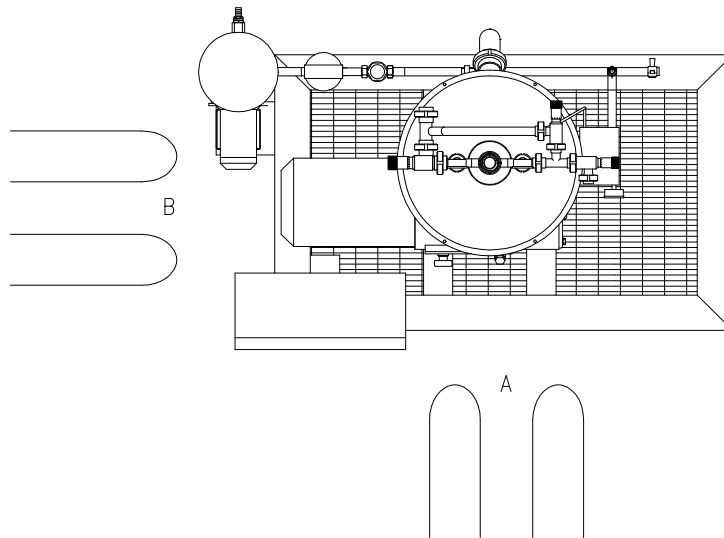

Figure 4.3
**To lift the preassembled unit on base frame** (fig. 4.3), use a lift truck having guaranteed:
Insert the two forks (fig. 4.3) from the side A of the base frame in such a way that they reach the edge of the opposite side, or insert them from the side B (motor side) with the caution of insert them as much as possible overall dimensions permitting. If the forks are inserted from the side B, check they can lift both the transverse beam of the base frame in which the machine is fixed.